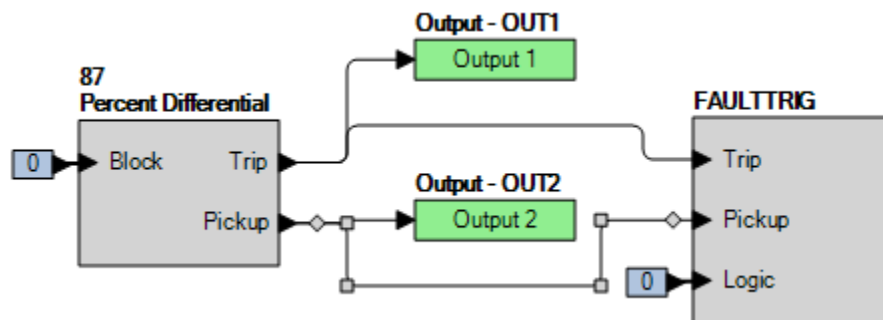

Figure 66-1. BESTlogicPlus Settings (87R)
Step 2: Use BESTCOMSPlus to configure the BESTlogicPlus programmable logic shown in Figure 66-1.
Step 3: Prepare to monitor the 87R function operation. Operation can be verified by monitoring OUT2 (see Figure 66-1).
- Step 2: Use BESTCOMSPlus to configure the BESTlogicPlus programmable logic previously shown in Figure 66-1.
- Step 3: Prepare to monitor the 87R function operation. Operation can be verified by monitoring OUT2 (see Figure 66-1).
- Step 1: Use BESTCOMSPPlus to verify the operational settings in Table 66-1 (Maximum) or 2 (Average) and logic in Figure 66-1. Reset all targets.